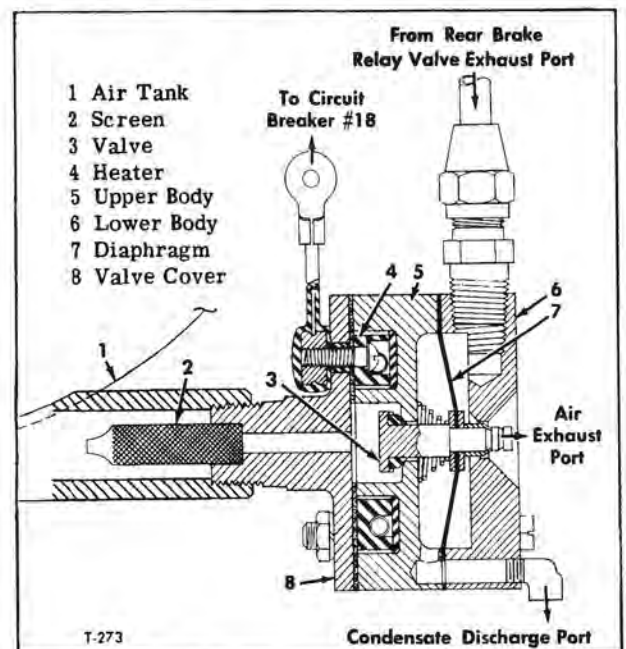

Figure 8—Moisture Ejector Valve (Expello) (Typical)
Air tanks also serve to cool and condense oil and water vapors in compressed air. Most of this condensation takes place in the main (wet) air tank, the tank connected to the air compressor. The moisture ejector valve (fig. 8 or 10), when used, automatically drains condensation from tank each time air compressor governor operates the compressor unloader, or each time the brakes are applied and released (depending upon the type of ejector system used). The dry air tank, suspension air tank, and front brake air tank on Suburban models, must be drained manually each day. Drain tanks completely by leaving drain cocks open after all air is exhausted and until all drainage stops.
The "Expello" moisture ejector valve used as optional equipment on some coaches (fig. 8) is operated by compressed air and automatically ejects condensation from the wet air tank. The valve is connected to bottom of wet air tank on transit coaches and bracket mounted near wet air tank on Suburban coaches. Condensation drains into valve upper body. An optional heating coil, when used, prevents moisture from freezing. Heating coil is connected to No. 18 circuit breaker behind control panel at left side of driver's seat.
Key numbers in text refer to figure 8.
4. Cut off small end of stem at second groove. The sleeve that holds assembly together is swaged as shown in figure 8. Remove sleeve from end of valve stem. Remove brass washer, diaphragm (7), second brass washer, and spring. Remove stem from opposite side of upper body.